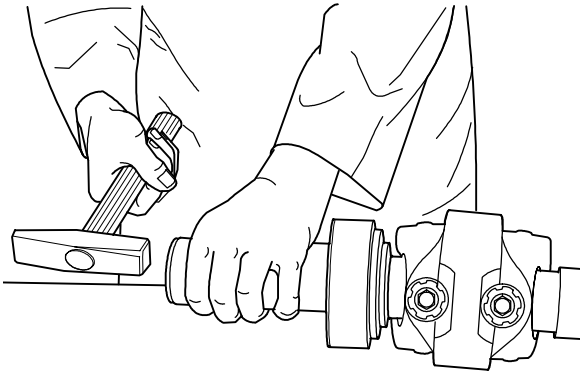

Figure 251 - Wear Ring - Installation
- e. Install the outer wear ring with the handle and replacer (Table 2, Items 6 and 28) (Fig 251).